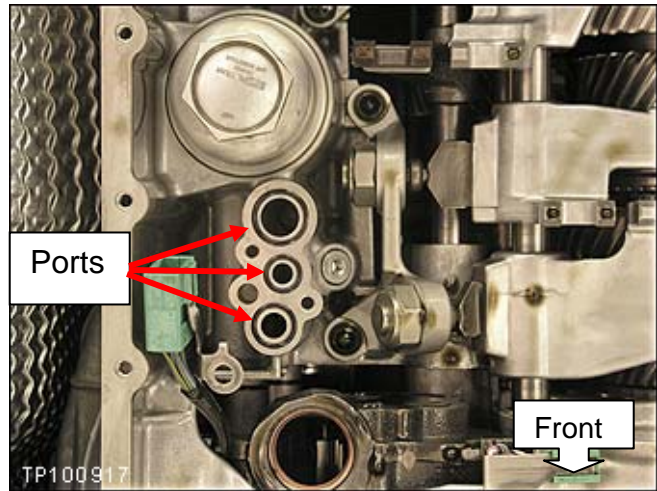

Figure 15
16. Remove old o-ring seals and install new o-ring seals on the transmission ports shown in Figure 15.